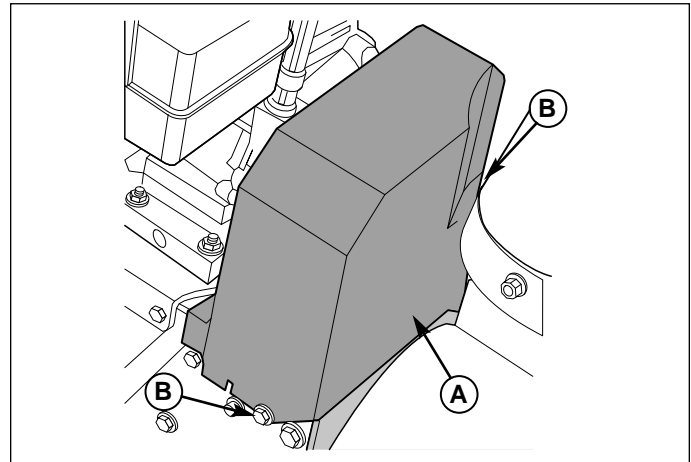
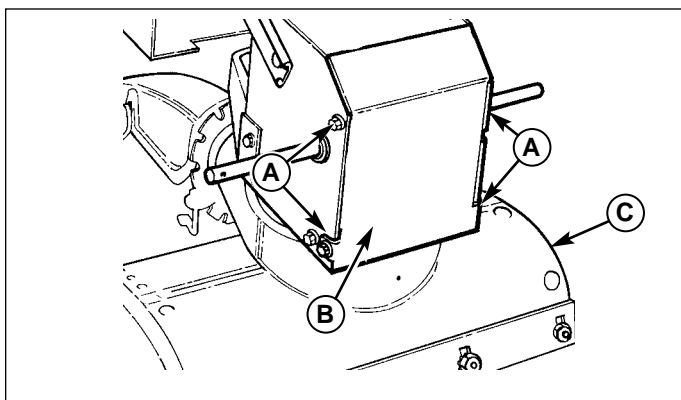
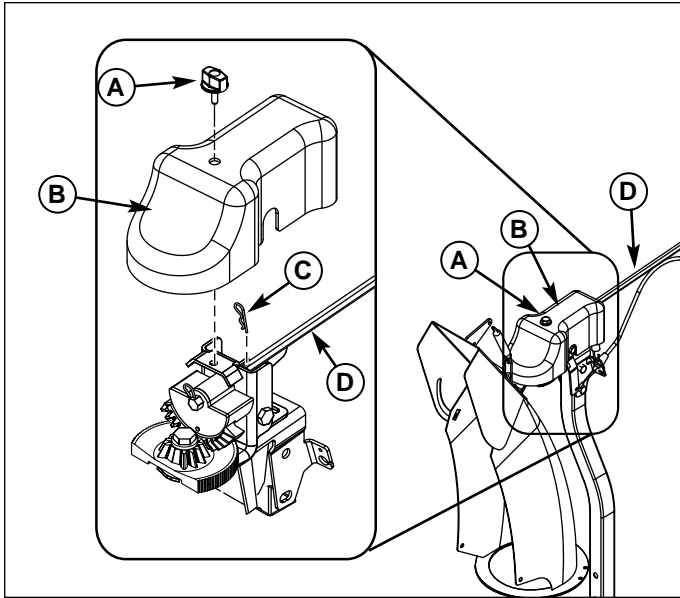
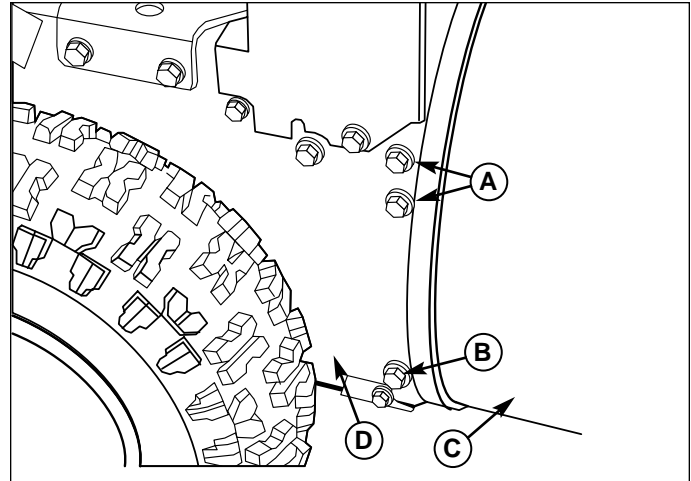

Figure 11. Belt Cover
Figure 13. Bottom Cover
Figure 15. Spout Rotator Rod
Figure 16. Frame and Axle Housing
2. Loosen screw (B, Figure 11) from belt cover (A). Remove belt cover (A).
6. Reinstall belt cover (A, Figure 11) securing with screws (B).
2. Remove the capscrews (A, Figure 13) on each side of the bottom panel (B).
3. Remove the bottom panel (B).
4. Loosen screws (B, Figure 11) from belt cover (A). Remove belt cover (A).
9. Remove special nut (A, Figure 15) and cover (B).
10. Remove hair pin (C) and slide rod forward about 3 inches until hex shaft separates from the handle control.
11. Remove the upper four capscrews (A, Figure 16) that hold together the auger housing (C) and the frame (D). Loosen the lower two capscrews (B). The auger housing (C) and the frame (D) can now be split apart for removal of the belt.
14. Assemble the auger housing (C, Figure 16) to the frame with the four upper capscrews (A) that were removed in step 11. Tighten the two lower capscrews (B).
17. Insert hair pin (C, Figure 15) into spout rotator rod (D).
18. Install cover (B) and secure with special nut (A).
19. Install the auger drive belt (D, Figure 13) onto the engine pulley (C).
20. Slip the auger drive belt (D) under the idler pulley (K).
23. Install the belt cover (A, Figure 11). Tighten screws (B).
25. Install the bottom panel (B, Figure 13).
26. Tighten the capscrews (A) on each side of the bottom panel (B).
14. Install the bottom panel (B, Figure 13). Tighten 1/4-20 screws to 25-35 lb-in (2,8-3,9 Nm).
15. Install the belt cover (A, Figure 11). Tighten 1/4-20 screws (B) to 25-35 lb-in (2,8-3,9 Nm).